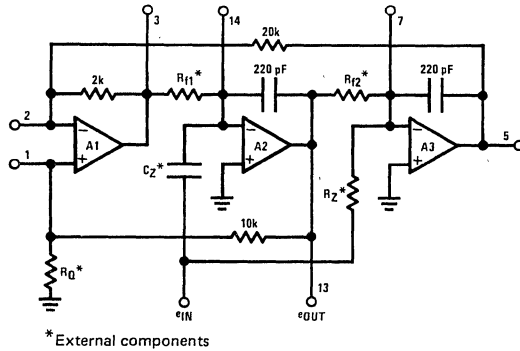

FIGURE 15. Input Notch Filter Using 3 Amplifiers
j) Input notch filter (Figure 15) transfer function equations are: